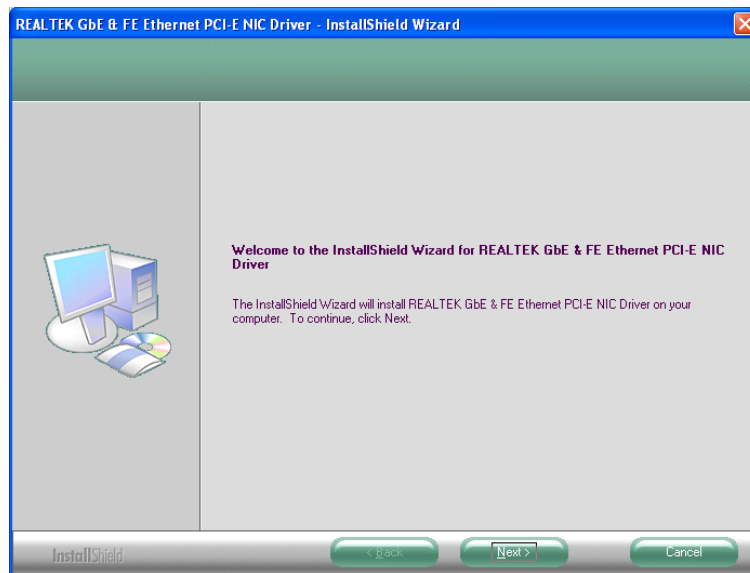

Figure 6-15: LAN Driver Welcome Screen
Step 4: The **Welcome** screen in Figure 6-15 appears.